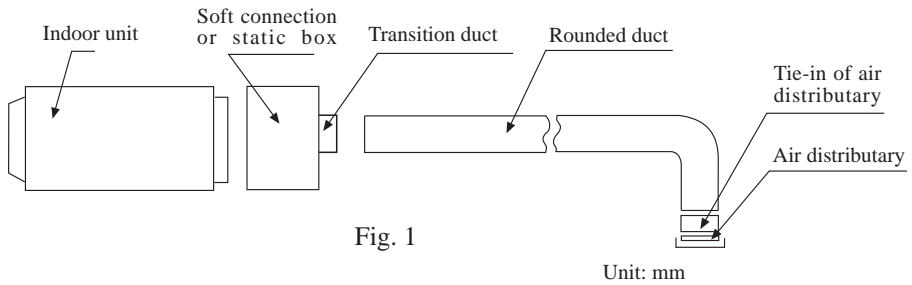

Fig. 1
- The rounded duct needs to add a transition duct to connect with the air-sending duct of indoor unit, then connect with respective separator. As Fig. 1 shown, all the fan speed of any of the separator's air outlet shall be adjusted approximately the same to meet the requirement for the room air conditioner.